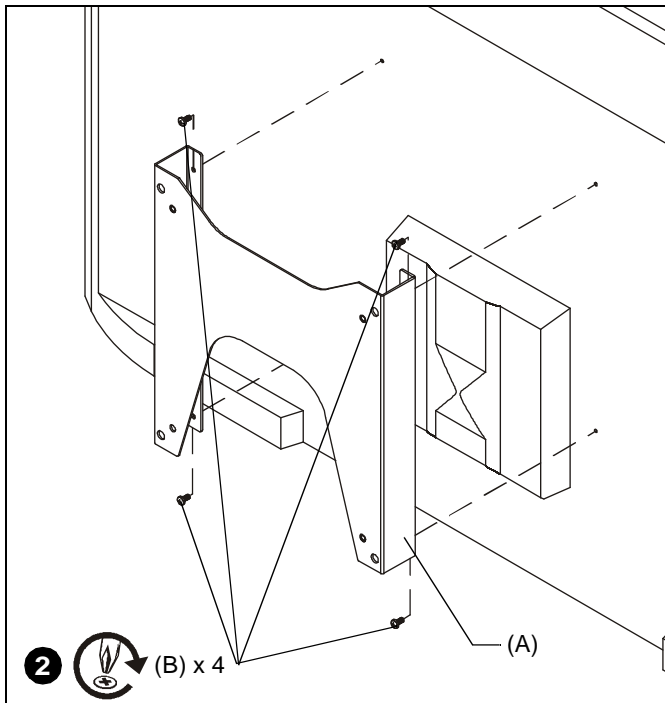

Figure 1
2. Attach FHB bracket (A) to display using four Phillips pan head M6 x 16mm screws (B). (See Figure 1)